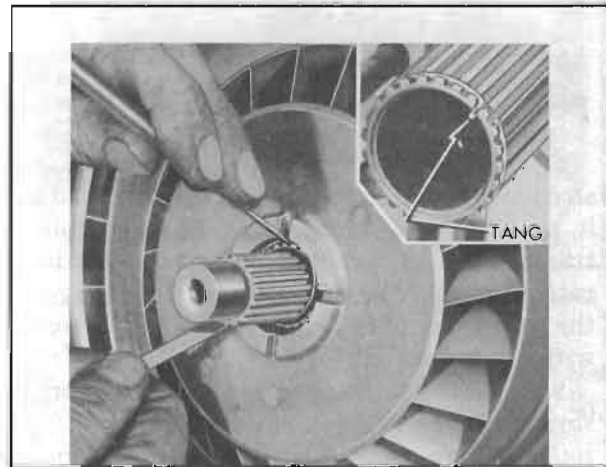

Figure 4-150—Installing Reaction Shaft Retaining Ring
7. Install the primary and secondary stator assembly on reaction shaft and install the reaction shaft retaining ring. Make sure that tang on retaining ring points outward and lies between the splines so that ring will be fully seated in the groove in reaction shaft. See figure 4-150.